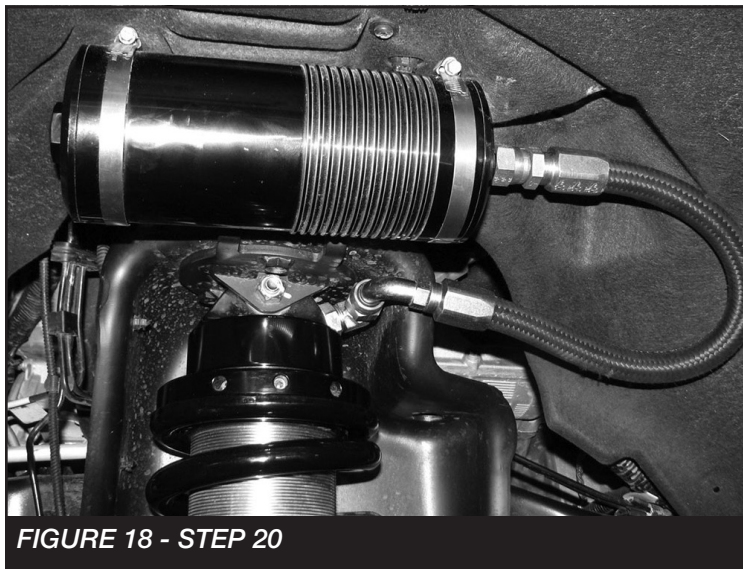

FIGURE 18 - STEP 20
20. Install the resi can to the resi mount using the supplied clamps. **SEE FIGURE 18**